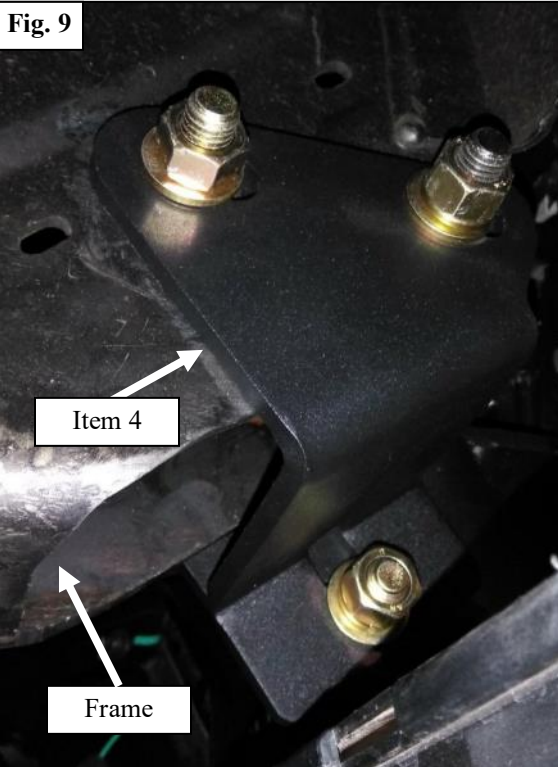

Fig. 9
11. Locate the lower driver mounting and support brackets for the Grille Guard. Using the supplied M12 hardware, loosely install the mounting brackets on to the frame. The mounting bracket and support bracket (2-5) sandwich the frame. See **Figures 9 & 10.**